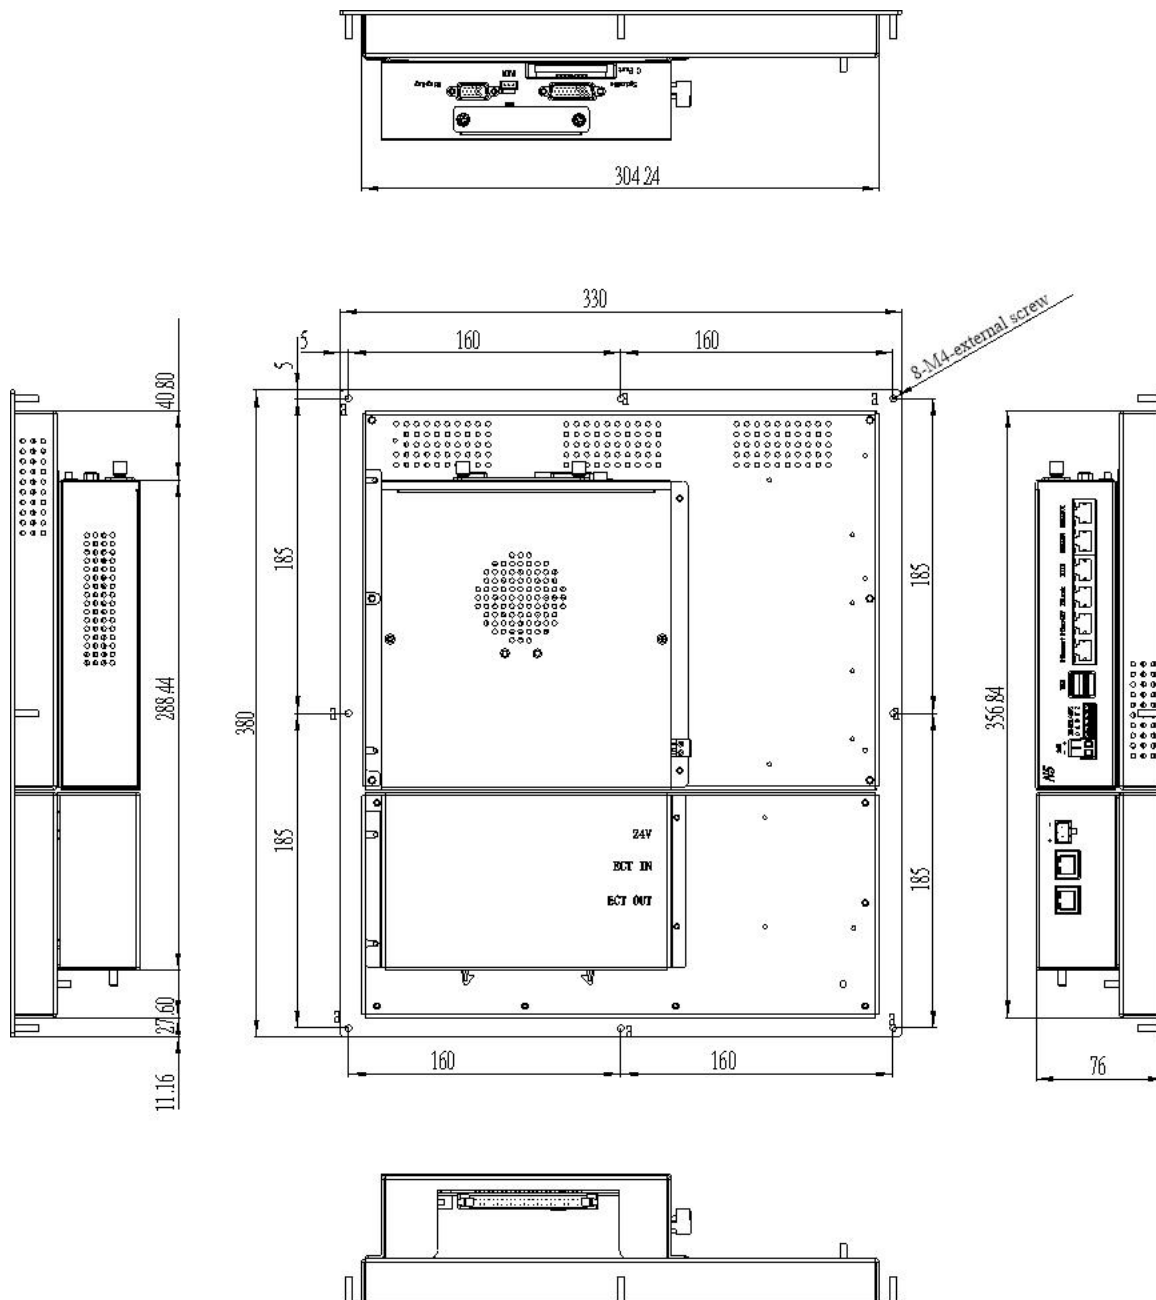

Figure 4-2 N5 All-in-One Controller Upper Panel Mounting Hole Locations and External Dimensions
- The recommended mounting holes for sheet metal cabinets are 5mm, and the position refers to the position marked by a screw in [Figure 4-2 N5 All-in-One Controller